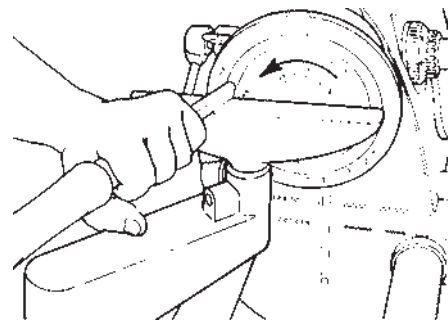

Figure C-53
a. Scraping is one way to shape the inside. Turn on the machine, set the speed, and feed a roundnose chisel against the downward side of the stock. See Figure C-53. As you work, periodically check the inside diameter with inside calipers.